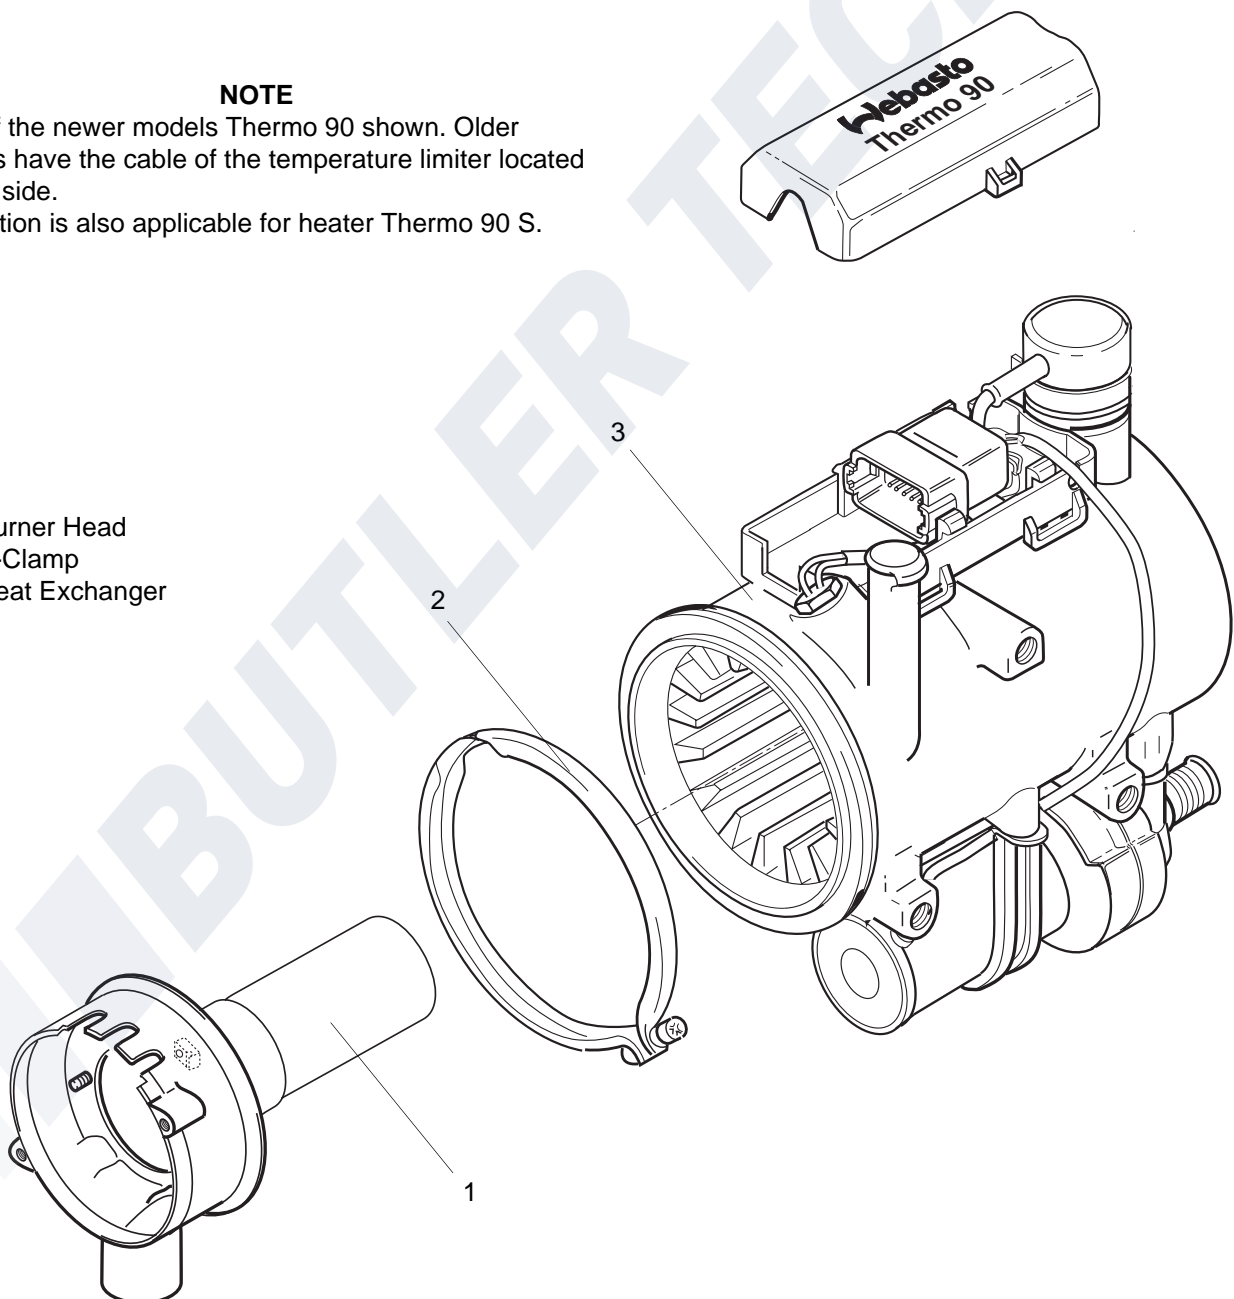

Fig. 906 Replacement of Burner Head
4. Remove attachment screw of V-clamp (2, Fig. 906) and pull off clamp.
5. Withdraw burner head (1) from heat exchanger (3) and remove.
1. Insert burner head (1, Fig. 906) into heat exchanger (3), align as necessary and secure with V-clamp (2).